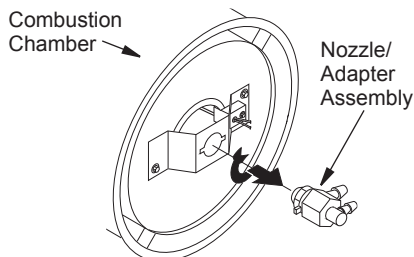

Figure 25 - Removing Nozzle/Adapter Assembly
4. Turn nozzle assembly 1/4 turn to left and pull toward motor to remove (see Figure 25).
10. Attach nozzle assembly to burner strap (see Figure 25).